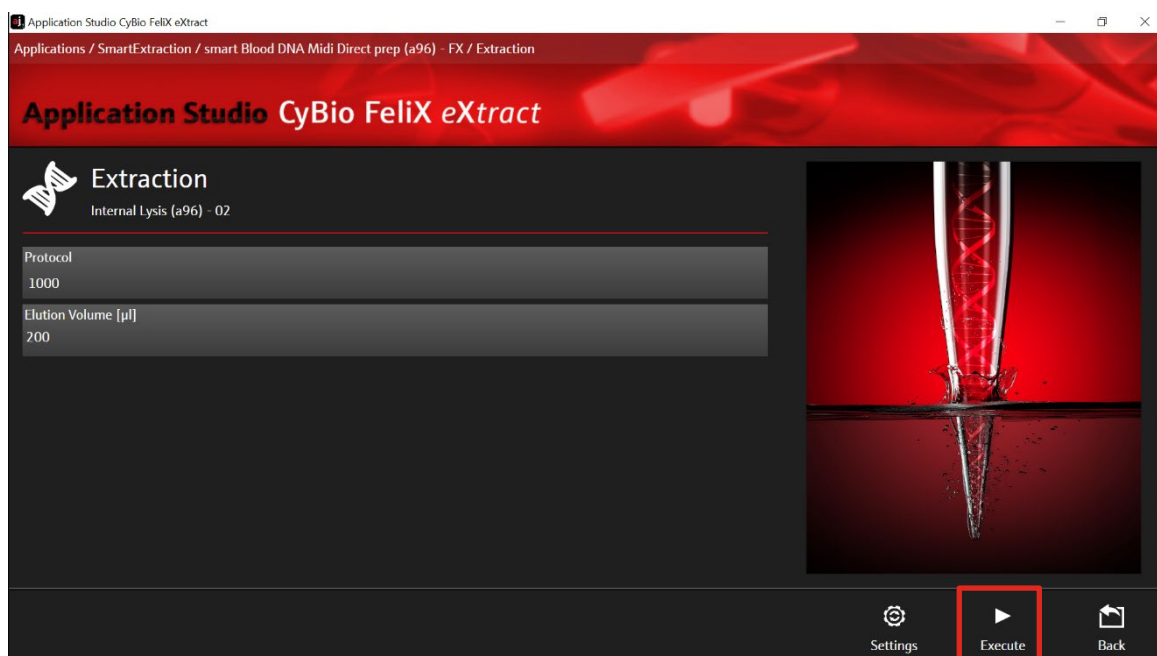

Figure 35: Selection of sample volume (1000 μL) and elution volume (variable).
6. After selecting "Extraction", the Extraction Start Screen appears (→ see Figure 35).
8. Select the protocol for 1000 μL sample volume and adjust the elution volume between 150-500 μL (\rightarrow see Figure 35). Start the protocol by clicking "Execute".